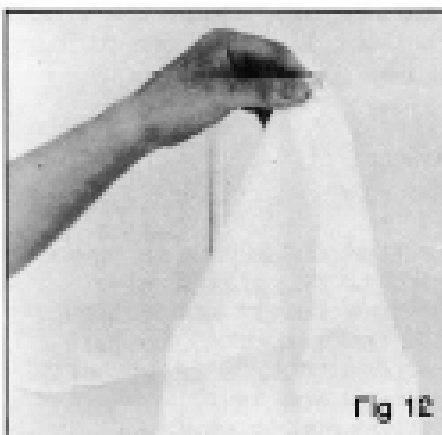

Fig 12
Next, hang the two filter bags (D) from the support rods. Fig 12.